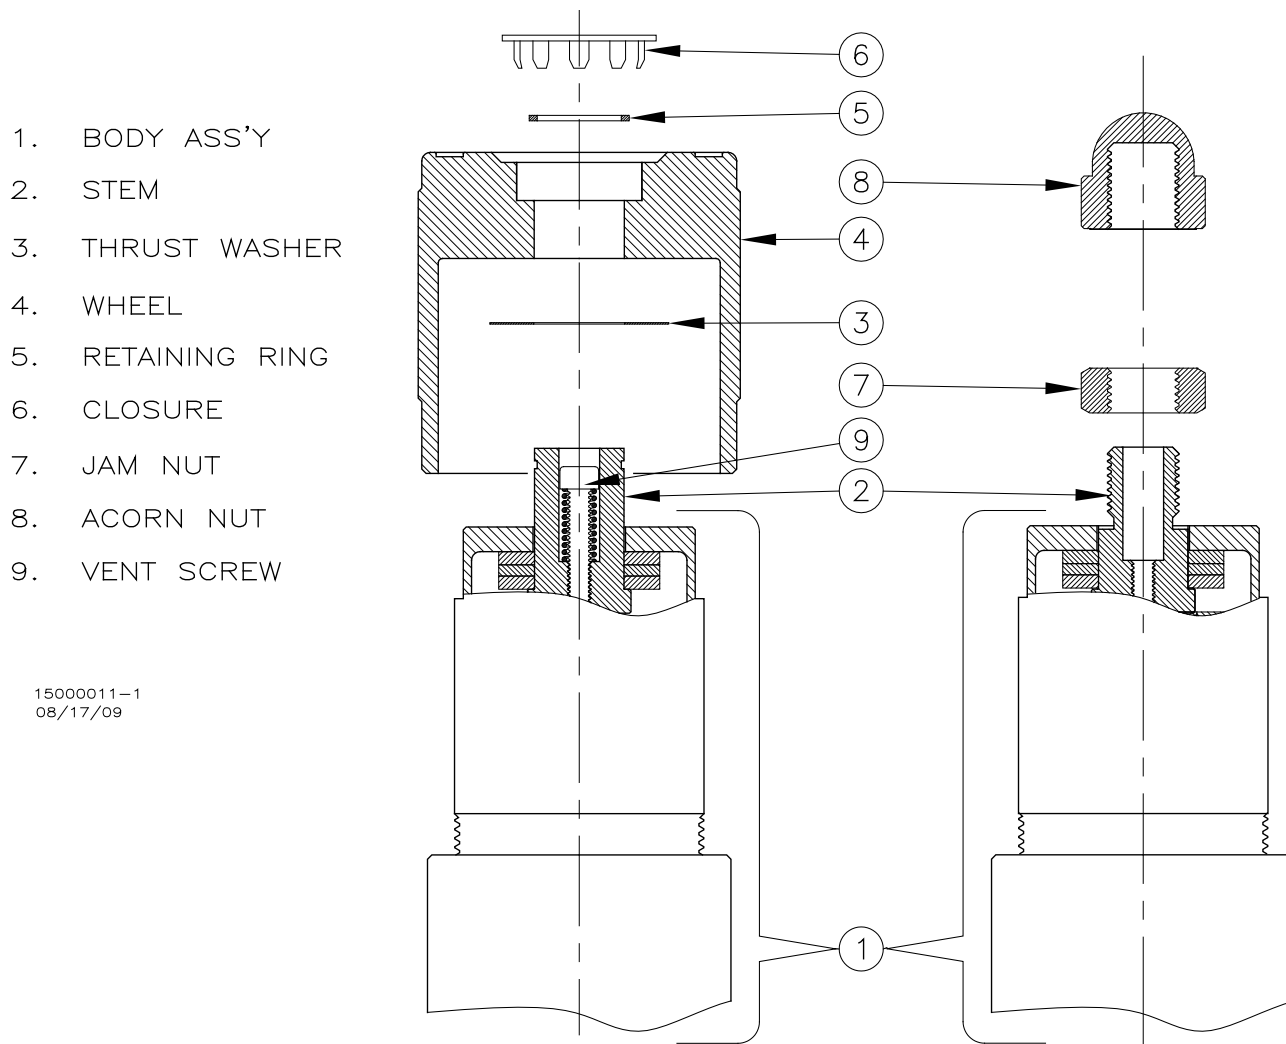

Figure 2. KT10 and KT12 Adjustable and Preset Regulator Stem Assemblies.
- i) Refer to **Figure 2** to remove closure, retaining ring, wheel, and thrust washer.
4. When necessary perform the following to adjust the vent valve (KT10 and KT12 only). Refer to **Figure 2**.
- a. Remove the closure (6) on the top of the regulator adjustment wheel (4).
- c. Use a flat tip screwdriver to turn the vent screw (9) clockwise until gas can be heard venting through the bonnet of the regulator.
1. Perform the following to readjust the regulator delivery pressure set point. Refer to **Figure 2**
- c. Remove acorn nut (8) from top of stem (2).
- d. Loosen jam nut (7).